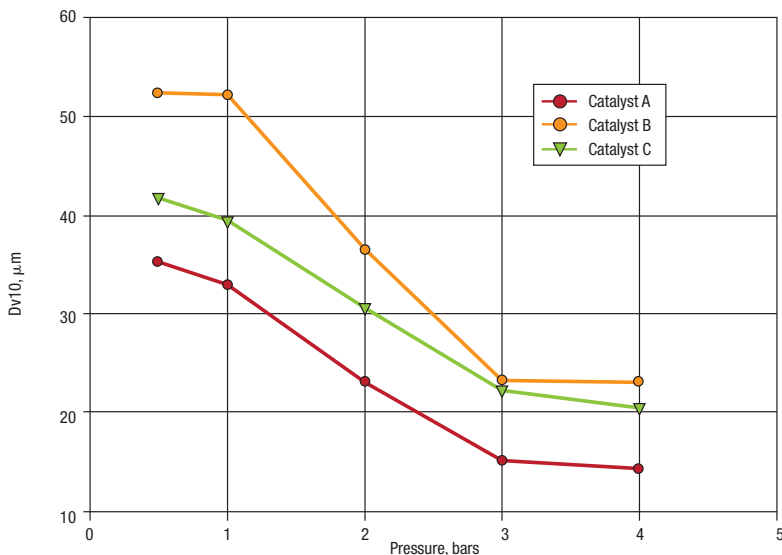

FIGURE 5. *Dv*10 versus pressure data for catalysts A, B and C show the attrition of particles at increasing pressures
critical, as Dv10 is the most sensitive marker of increases in fine particle fraction caused by attrition. Figure 5 shows Dv10 as a function of pressure for each of the FCC catalysts. These data have been used to calculate an attrition index (AI), which compares the Dv10 measurement at low pressure to that measured at high pressure.